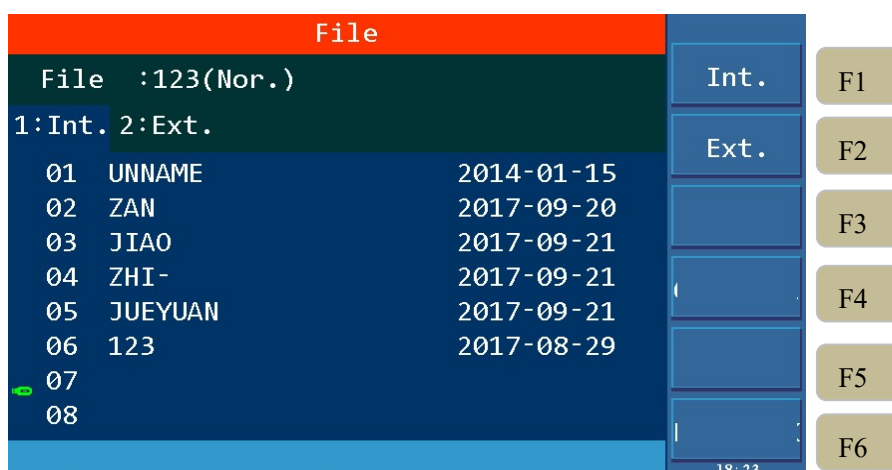

Figure4-24 Internal File Interface
1. Press **[FILE]** key to enter the file management interface, as shown in Figure 4-24.